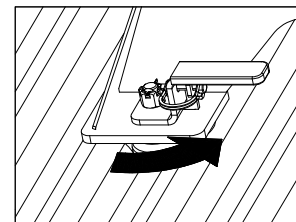

Figure C2:
- Prepare to adjust latch tension.** Once the base is in place, remove the cotter pins from each of the four castle nuts. Engage the cams with each attachment point by turning the latch handles back to their latched position, see Figure C2. If a handle will not turn easily, loosen the castle nut until the cam will freely turn and engage the attachment point.